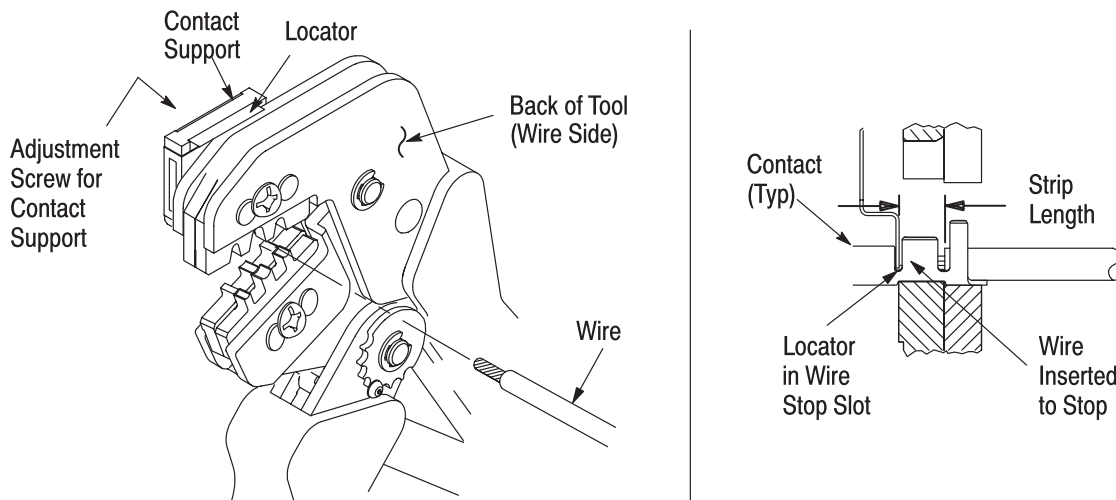

Figure 3
4. CONTACT SUPPORT ADJUSTMENT (Figure 3)
Refer to the table in Figure 1 and select wire of the specified size and insulation diameter. Strip the wire to the length indicated in Figure 1, taking care not to nick or cut wire strands. Select an applicable contact and identify the appropriate crimp section according to the wire size markings on the tool. Refer to Figure 3 and proceed as follows:
3. Position the contact so that the mating end of the contact is on the locator side of the tool, and so that the open “U” of the wire and insulation barrels is facing the top of the tool. Place the contact up into the nest so that the movable locator drops into the slot in the contact. Refer to Figure 3. Butt the front end of the wire barrel against the movable locator.
5. Insert stripped wire into contact insulation and wire barrels until it is butted against the wire stop, as shown in Figure 3.
NOTE  *The crimped contact may stick in the crimping area, but the contact can be easily removed by pushing downward on the top of the locator (see Figure 3).*